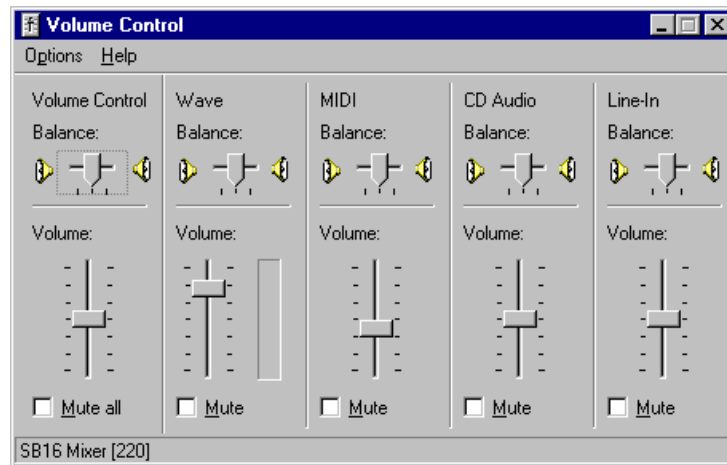

Figure 5-3. Sample Volume Control Window
1. Double-click the yellow speaker icon in the Windows taskbar to display the SB16 Mixer **Volume Control** window (see Figure 5-3).